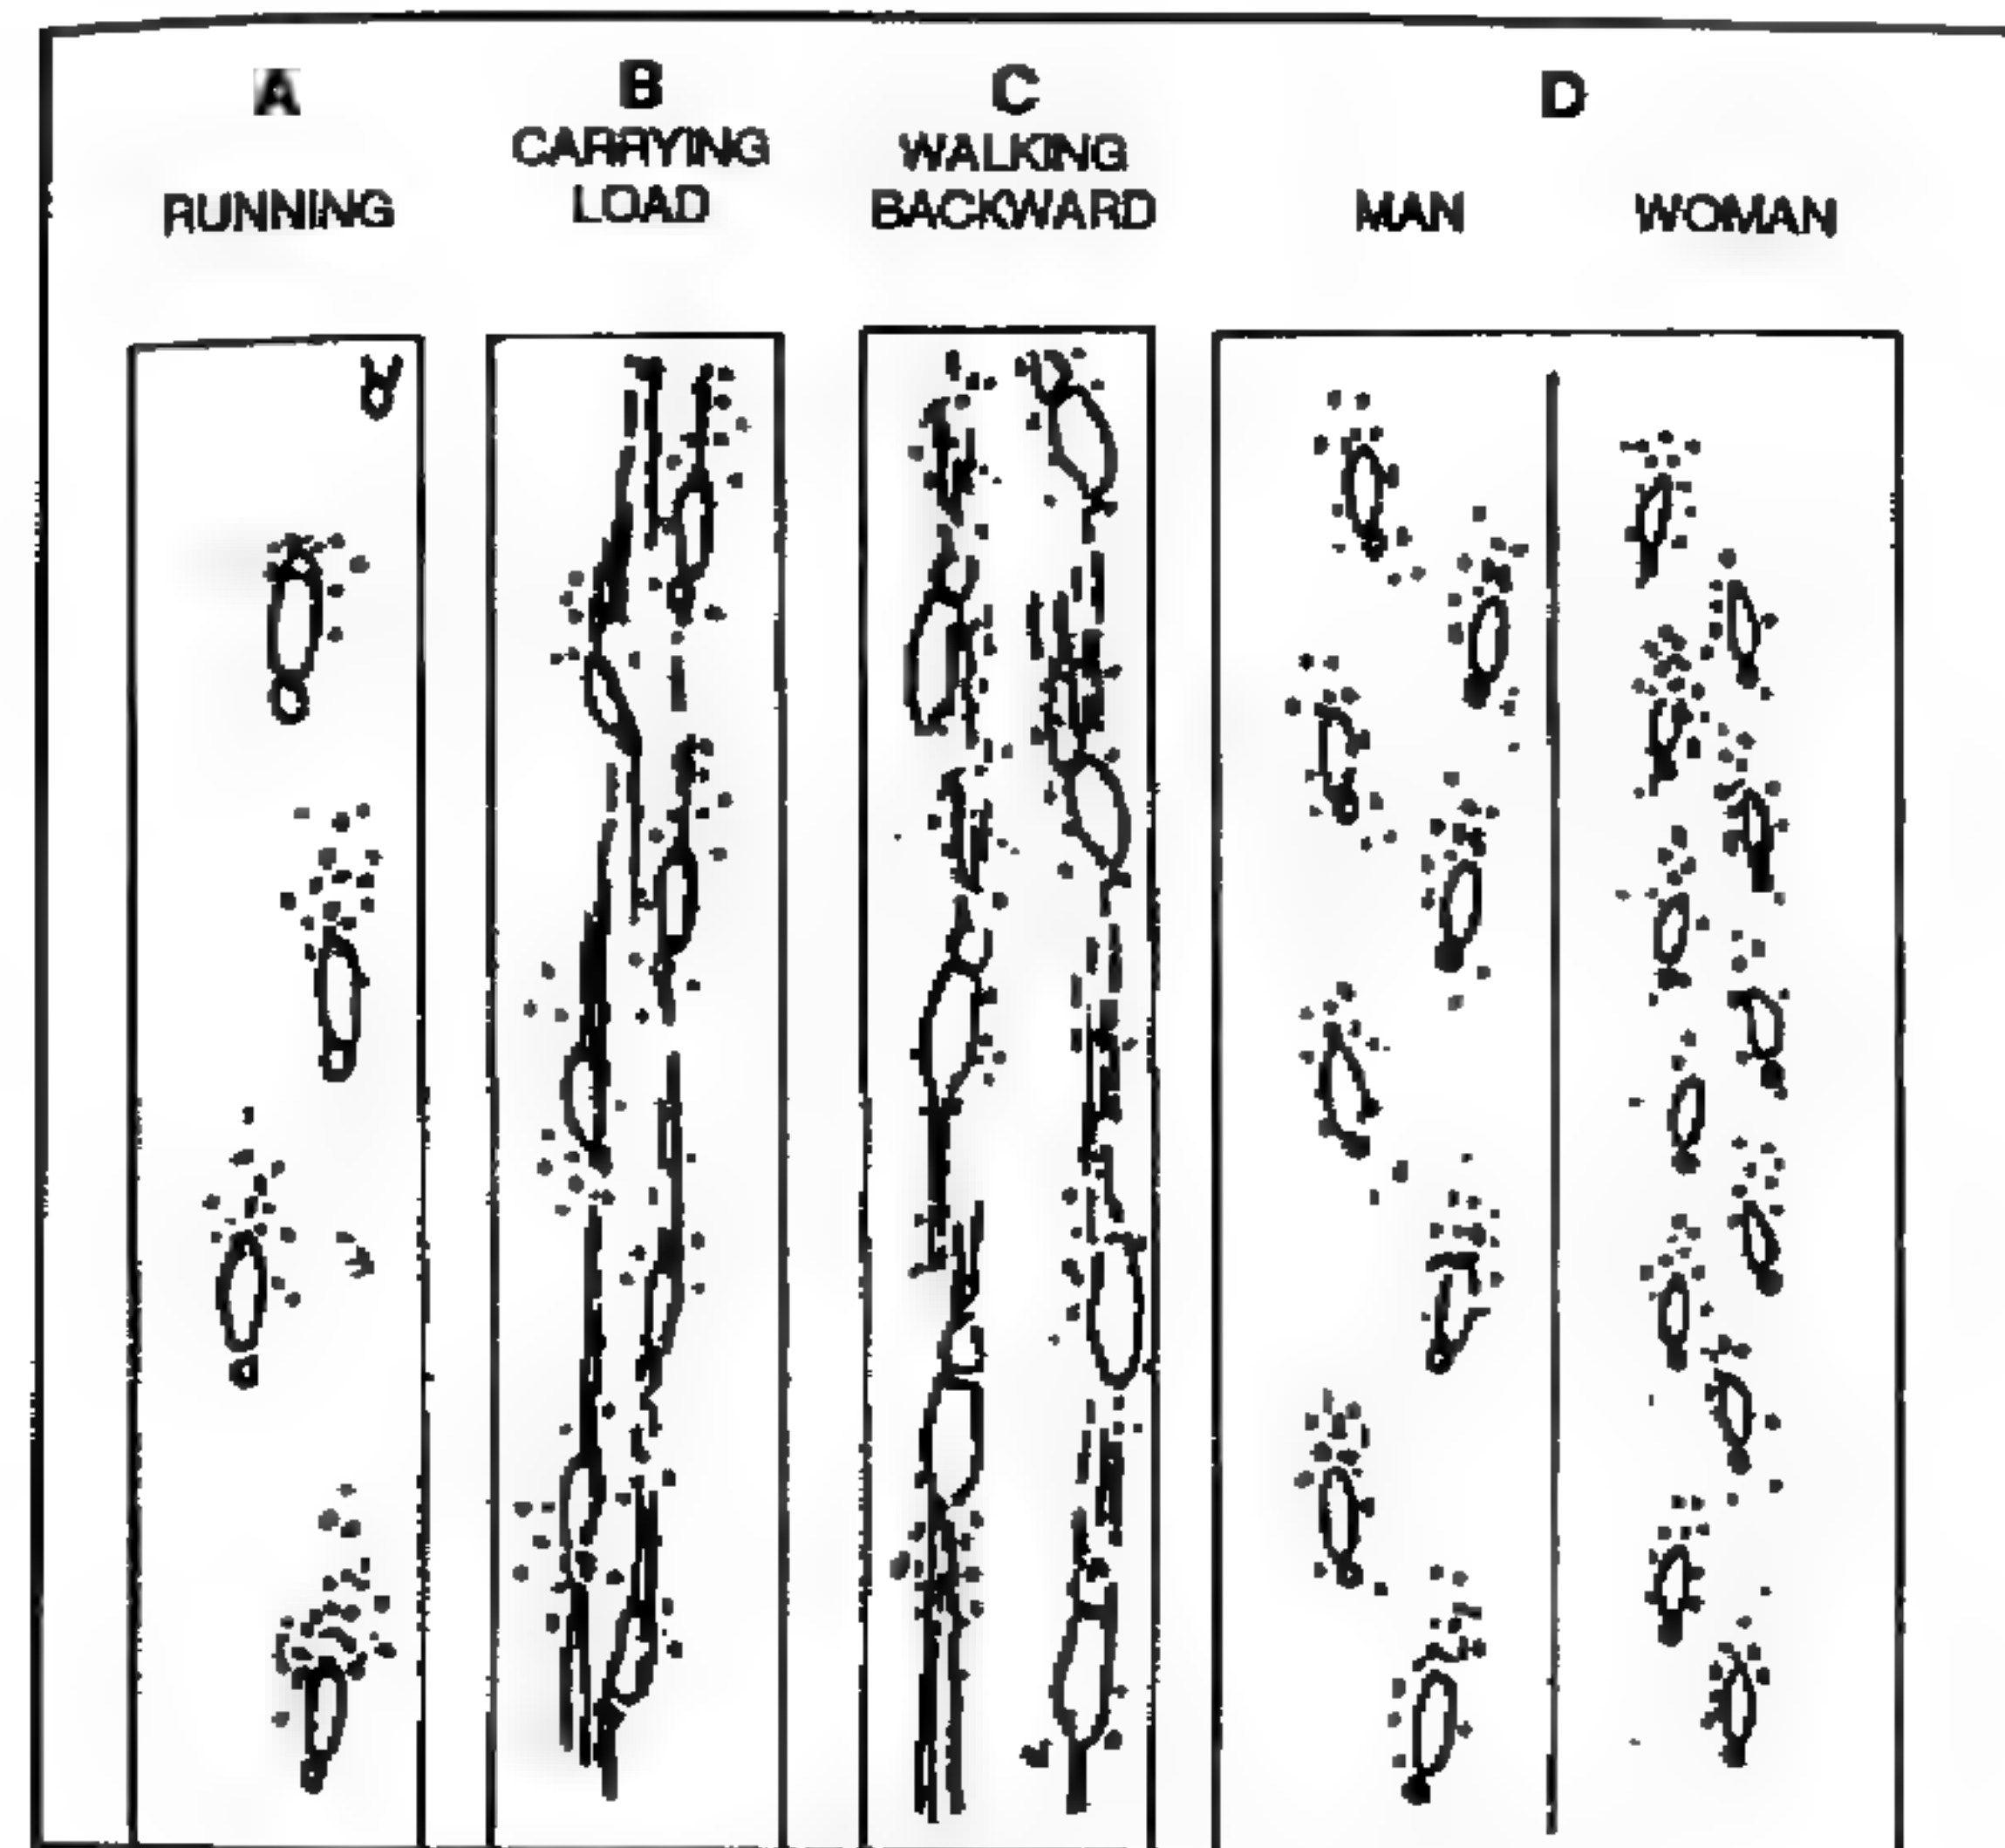

Figure 8-1. Different types of footprints.
(1) If footprints are deep and the pace is long, rapid movement is apparent. Long strides and deep prints with toe prints deeper than heel prints indicate running (A, Figure 8-1).
(2) Prints that are deep, short, and widely spaced, with signs of scuffing or shuffling indicate the person is carrying a heavy load (B, Figure 8-1).
(3) If the party members realize they are being followed, they may try to hide their tracks. Persons walking backward (C, Figure 8-1) have a short, irregular stride. The prints have an unnaturally deep toe, and soil is displaced in the direction of movement.
(4) To determine the sex (D, Figure 8-1), the sniper should study the size and position of the footprints. Women tend to be pigeon-toed, while men walk with their feet straight ahead or pointed slightly to the outside. Prints left by women are usually smaller and the stride is usually shorter than prints left by men.